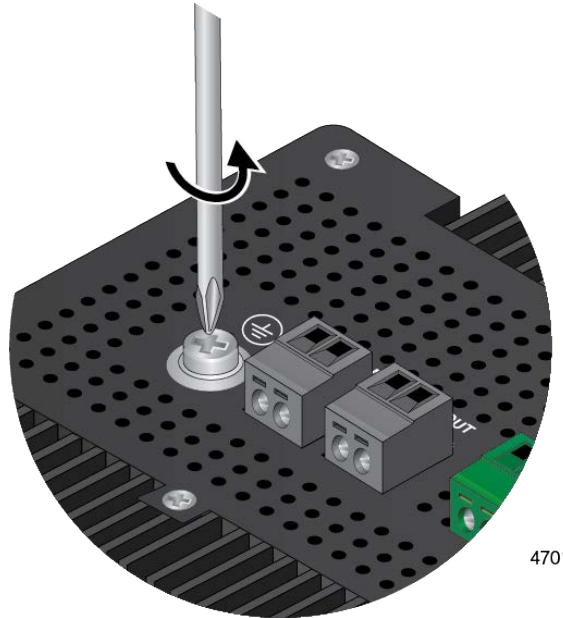

Figure 46. Loosening the Grounding Screw
7. Remove the grounding screw from the switch with a #2 Phillips-head screwdriver. Refer to Figure 46.